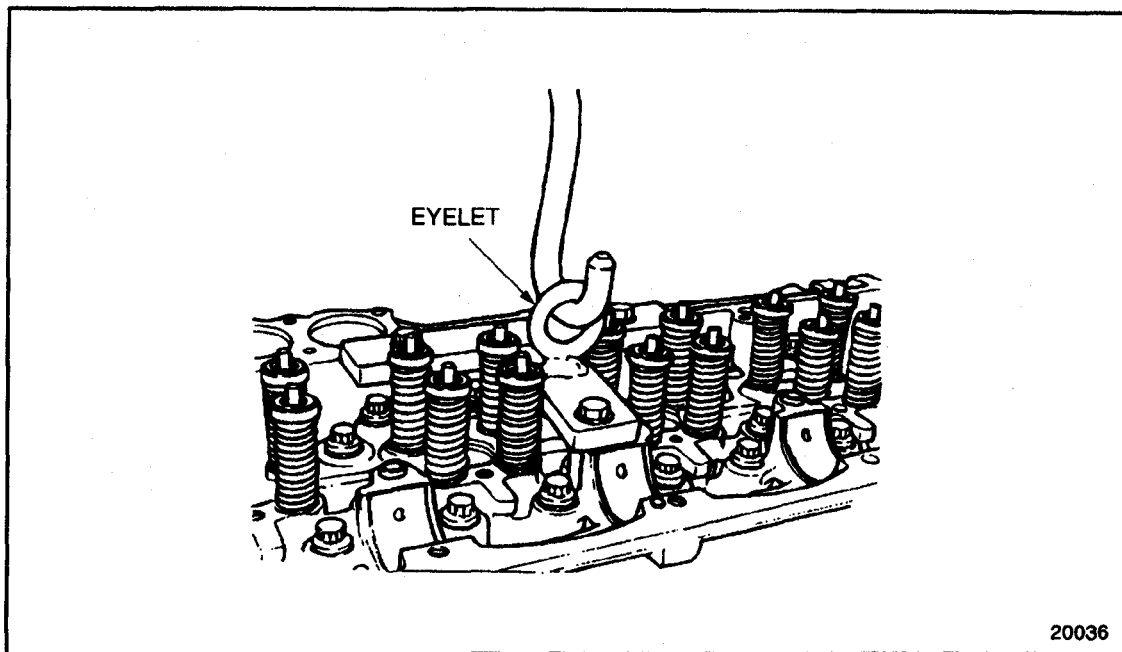

Figure 1-37 **Cylinder Head Removal**
23. Attach a suitable lifting hook to the eyelet in the lift bracket, and lifter the cylinder head off the engine. See Figure 1-37.